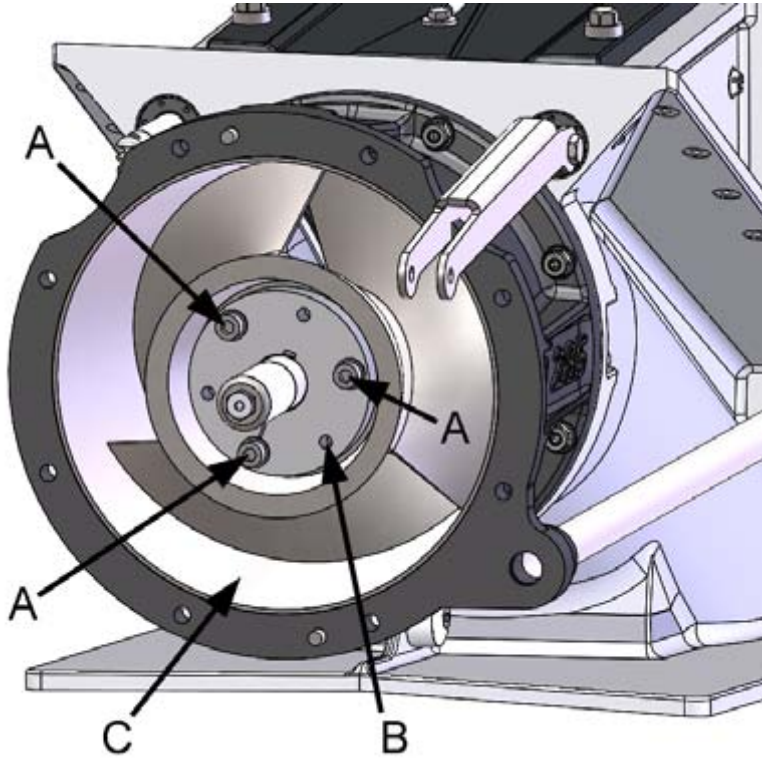

Figure 29. Impeller fastening screws, mounting cone
4. Loosen the impeller fastening screws (figure 29, point A).
5. Remove one screw completely and screw it into the threaded hole in the plastic mounting cone (figure 29, point B).